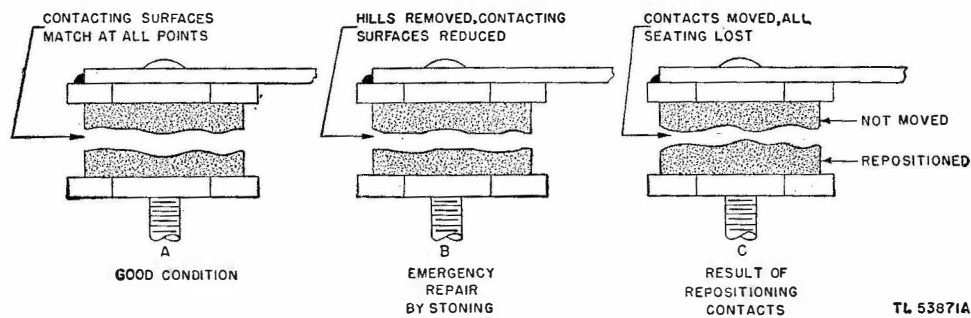

Figure 41. Governor contact surfaces (enlarged).
a. Governor contacts may be covered with small mounds and craters, yet operate satisfactorily. A, figure 41 shows an enlarged view of a pair of contacts with small mounds and craters which operate satisfactorily. The mounds or hills on one contact almost entirely match the craters on the opposite contact and, in this condition, provide a maximum of contacting surface. Unless trouble is encountered in securing and maintaining proper speed adjustment, such contacts need not be replaced.
b. Trouble with contacts due to poor contact surfacing quite frequently is caused by previous attempts to burnish or file a new surface on an old contact. The mounds or hills have been removed, but the craters continue to exist as illustrated in B, figure 41. The result is that the amount of contacting surface is reduced. A shift in the position of either contact will result in mounds or hills and craters being created as shown in C, figure 41.
- (1) Remove the two governor guard mounting screws and the governor guard.
- (2) Loosen the two governor brush assembly mounting screws and slip the gov-